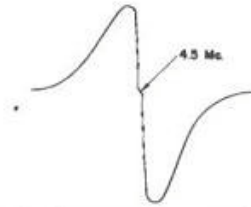

Fig. 36. Intercarrier Sound Response.
4. Inject a 4.5 Mc marker into the sweep and adjust the quadrature coil L64 until the marker falls at the base reference line (See Fig. 36).